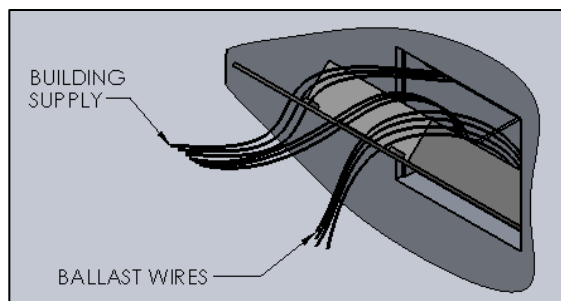

FIG. 14- DETAIL SHOWING BUILDING SUPPLY AND
- Make BUILDING SUPPLY wire connections and tuck them into the top section of the box leaving the DRIVER WIRES out as shown in FIG. 14.